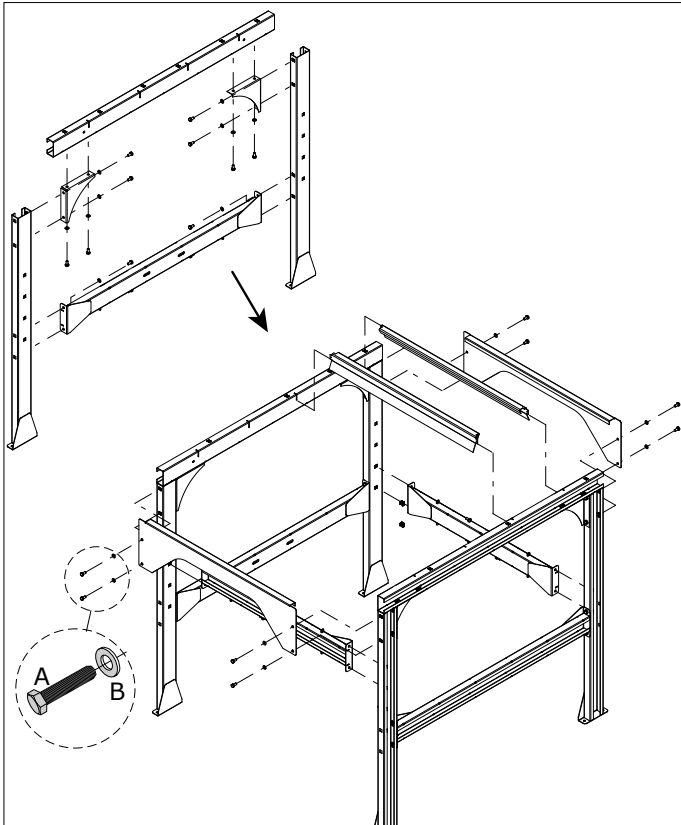

Fig. 4.1 Assembly of the mounting frame
- Tighten the bolts of the entire frame (refer to Fig. 4.1).